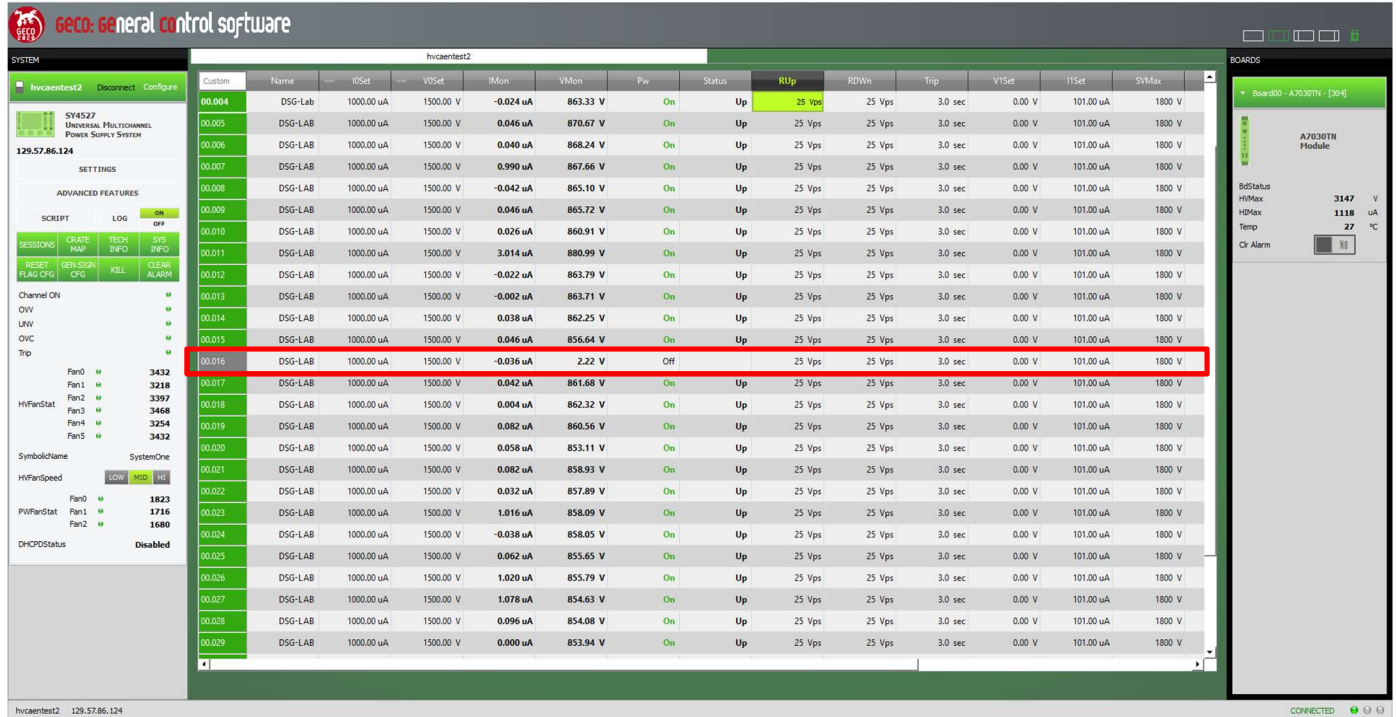
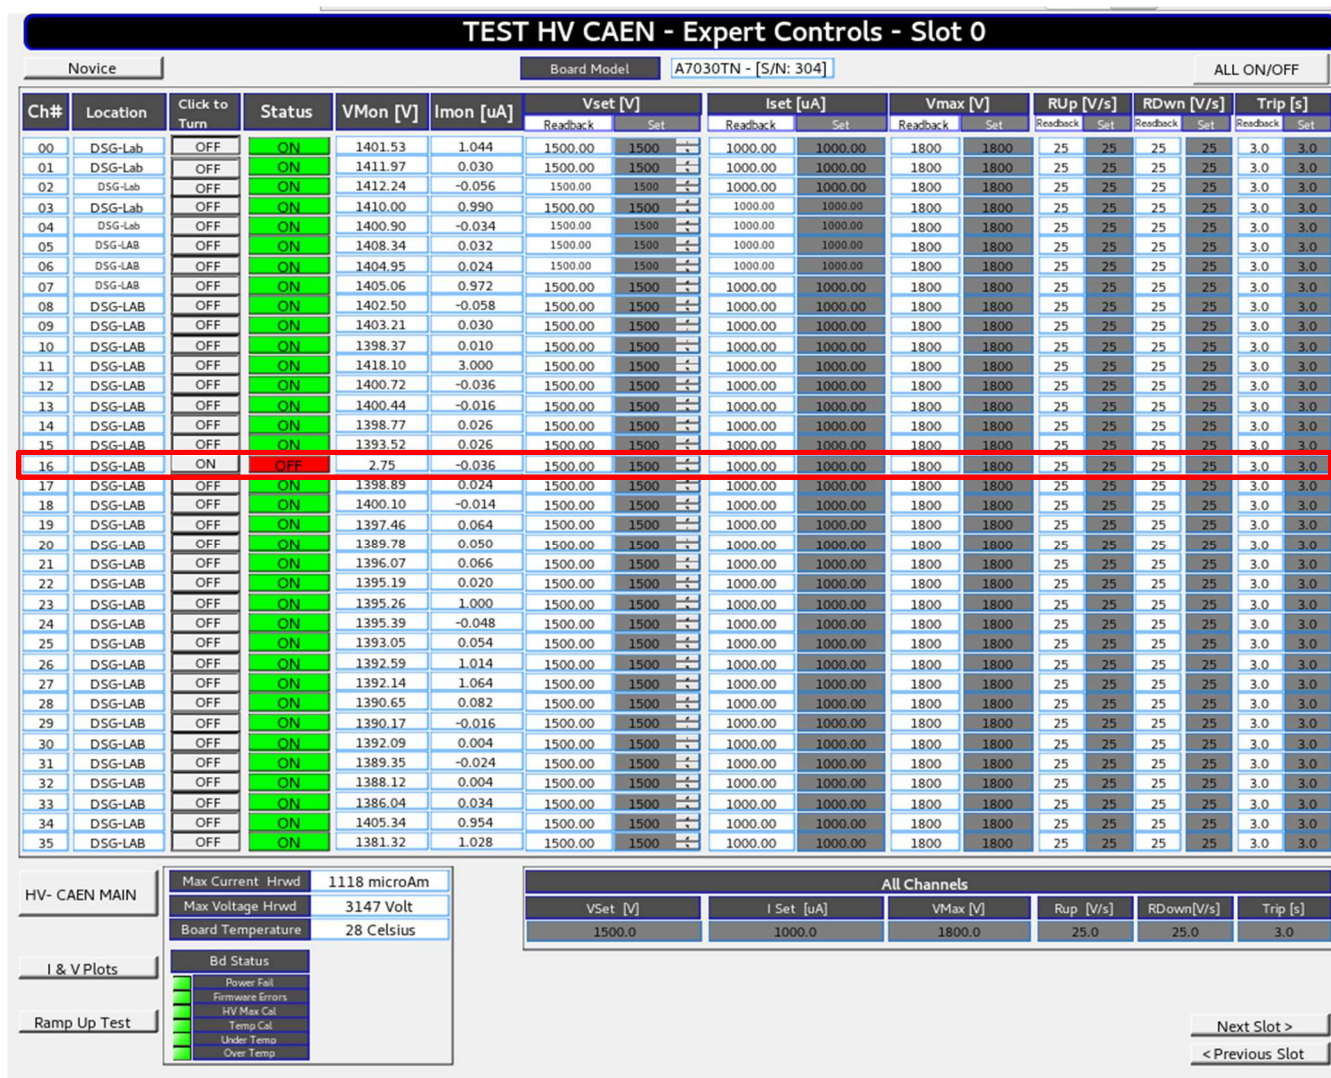

Fig.6 — GECO2020 screenshot shows channel 16 off after all channels were set to turn-on from JavaScript at CSS screen.
Fig.7 — Expert Controls CSS-BOY screen shows channel 16 off status after all channels were set to turn-on simultaneously
1.2. Verified that neither the PV and GECO value went to set point. See fig.6 and fig.7.